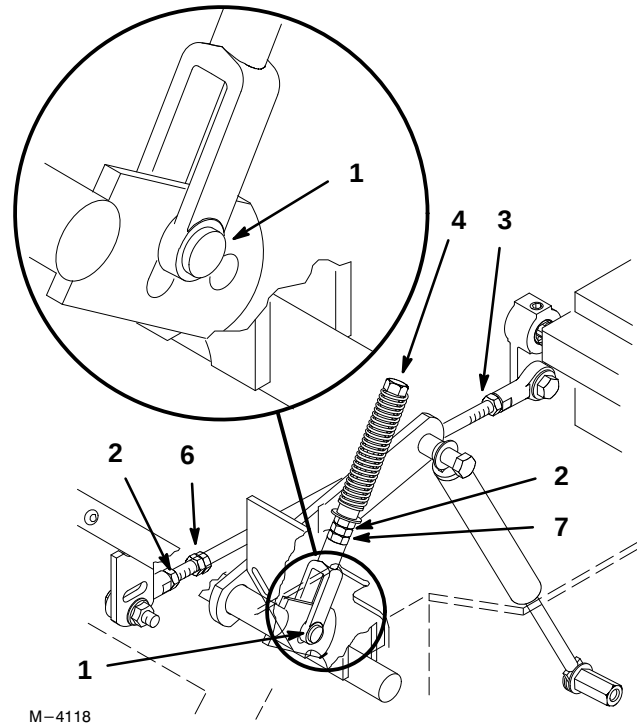

Figure 45
2. Begin with either the left or right motion control lever. Move lever to the neutral (but not locked) position and pull lever back until the clevis pin (on arm below pivot shaft) contacts the end of the slot (just beginning to put pressure on spring) (Fig. 45).
5. Apply slight rearward pressure on the motion control lever, turn the head of the adjustment bolt in the appropriate direction until lever is centered in neutral lock position (keeping rearward pressure on the lever will keep the pin at the end of the slot and allow the adjustment bolt to move the lever to the appropriate position (Fig. 45).
4. If adjustment is needed, loosen the nut against the yoke (Fig. 45).
11. Loosen locknut at ball joint on pump control rod (Fig. 45).
13. Adjust pump rod length by rotating double nuts on rod, in the appropriate direction, until wheel is still or slightly creeps in reverse (Fig. 45).